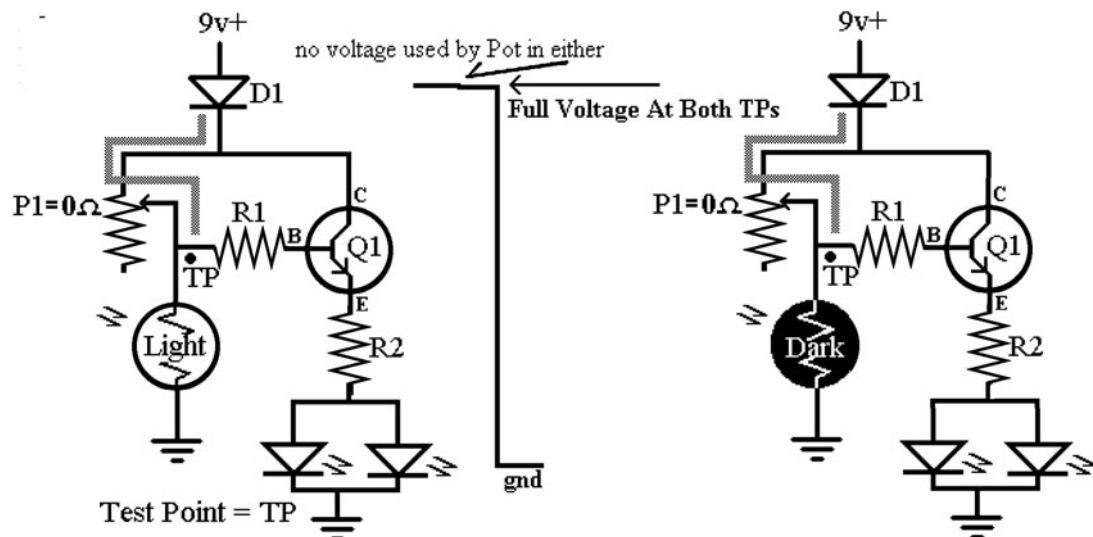

Figure L12-6
Remember the idea of the waterfall when we first looked at resistors. As the size of the load increased, the amount of voltage used increased *proportionately*. The same thing happens with two resistor loads in this circuit. More detail is given in Figure L12-6.
- Set the pot so the resistance between legs A and C, the center leg, is close to 0 ohms. Figure L12-6 shows how the voltage available to the transistor base is identical in both the light and the dark. The potentiometer uses none of the voltage, so the base of the transistor is exposed to nearly full voltage in both circumstances.
- Now set your circuit under a fairly good light. Measure and record the voltage at the test point shown in Figure L12-6. \_\_\_\_\_ V